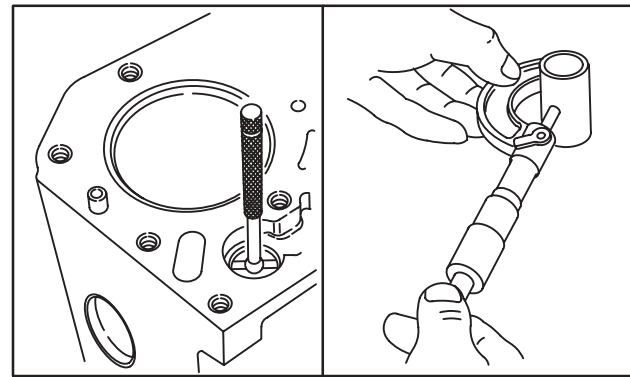

Fig. 4 – Checking Valve Lifter And Bore
4. Check valve lifter bore, Fig. 4.
5. Check valve lifter, Fig. 4.